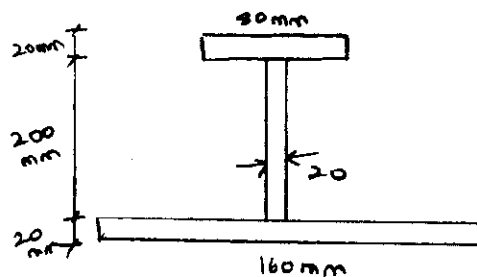

Fig. Q8(b)
b. The unsymmetrical I – section shown in Fig. Q8 (a) is subjected to shear force of 40kN. Draw shear stress variation across the depth